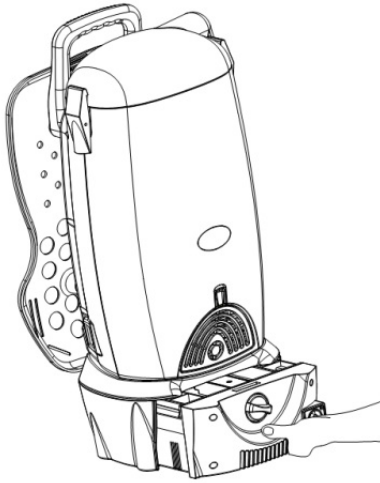

Fig 24
5. Plug the charger's power cord into 120V wall outlet (Fig 24)